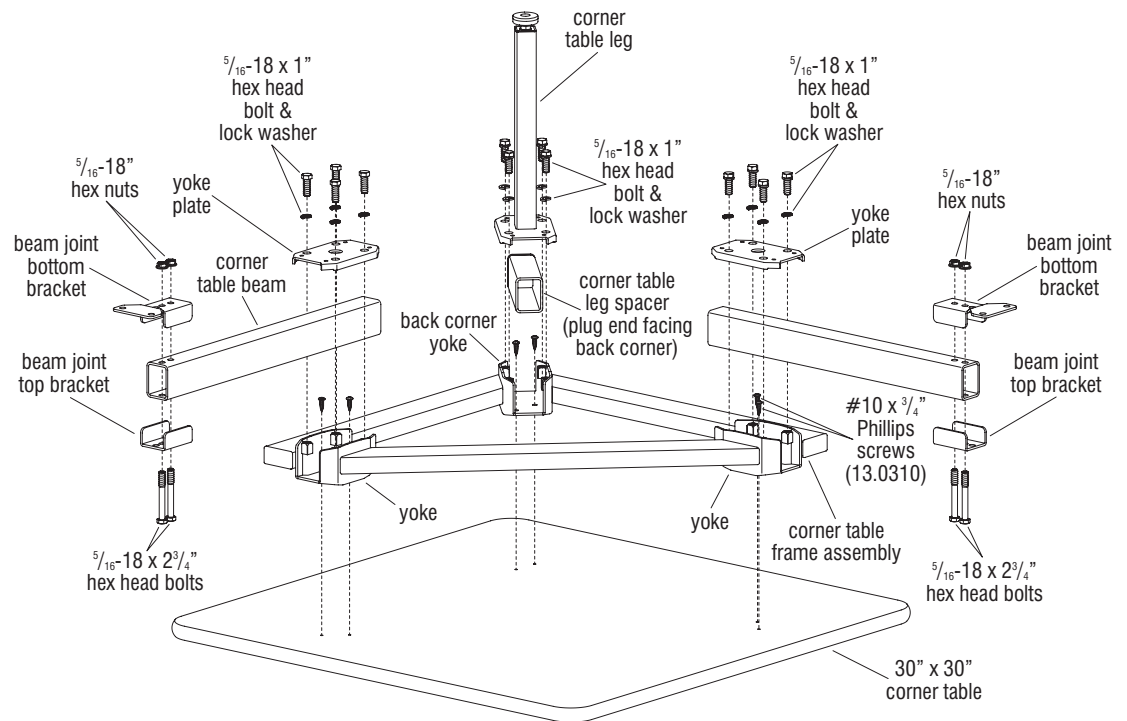

Figure 2
6. Carefully unpack all corner table parts, set them out and identify all components required for corner table assembly (Figure 2).
7. Carefully set the 30" x 30" corner tabletop side down onto a soft, protective surface. Lay the corner table frame assembly onto the table and align the holes in the "yokes" of the frame assembly with the appropriate pre-drilled holes in the underside of the corner table. Secure the corner table frame assembly to the corner table using six #10 x 3/4" Phillips screws. Torque screws to 30 in/lb, taking care to not over-tighten (Figure 2).
8. Take a corner table leg spacer in hand, orient it so the plugged end faces the back corner of the table frame, then set the table leg spacer into the back-corner yoke of the frame. Place a corner table leg over the spacer and yoke of the frame then secure with four 5/16"-18 x 1" hex head bolts and lock washers as illustrated. Torque bolts to 21 ft/lb in a diagonal pattern (Figure 2).
9. Locate a corner table beam and position a beam joint top bracket and beam joint bottom bracket over the two mounting holes at one end as illustrated. Insert two 5/16"-18 x 2 3/4" through and secure using two 5/16"-18 hex nuts (Figure 2 & Detail A).
10. Repeat step 4 above for the second corner table beam (Figure 2 & Detail A).
11. Orient the two assembled corner table beams such that the beam joint bottom bracket is face up (upside-down for installation). Position the two assembled corner table beams into the remaining two yokes of the corner table frame as illustrated. Place a yoke plate onto each beam and yoke of the corner table frame, then insert and loosely tighten four 5/16"-18 x 1" hex head bolts and lock washers. Tightening is not required at this time because adjustment is required later (Figure 2).